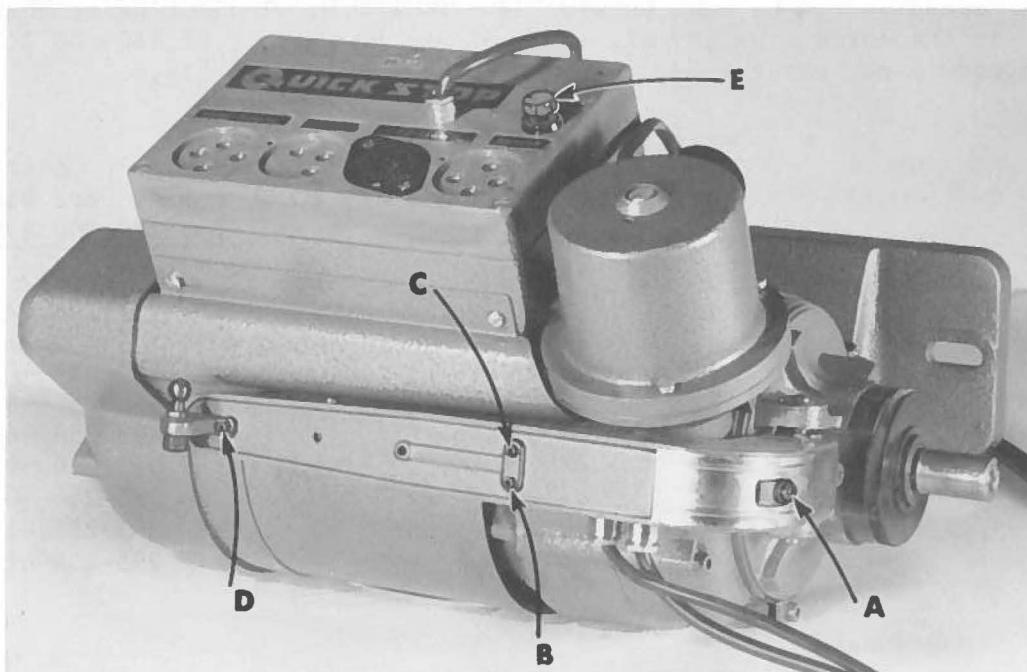

Fig. 41
Adjustment of the micro switch, located on the right hand side of the clutch arm, which actuates the magnetic clutch, should be made as follows; with the treadle in "rest position". Turn the set screw (A, Fig. 41) in a clockwise direction until the switch closes and the auxiliary control starts running. Now, turn the set screw in a counterclockwise direction to the position where the auxiliary control stops running. Continue to turn the set screw counterclockwise 1/2 to 1 complete revolution to obtain the correct setting of the switch.
However, if the needle travels right through the down position to the up and trim position, this indicates micro switch is open. Screw (B, Fig. 41) should be turned clockwise until micro switch is closed when treadle is in rest position.
If the down only position is desired, turn screw (B, Fig. 41) clockwise until micro switch is closed when treadle is in the rest position.
Screw (C, Fig. 41) is for adjustment of the micro switch which activates an automatic presser foot lifting mechanism. This assist is not available at the present time. It should be remembered not to turn this screw all the way in as it will affect the function of screw (B).
Screw (D, Fig. 41) should have only enough tension on the spring to return the treadle to the rest position after it has been heeled.
This unit incorporates a 2 1/2 AMP, 250 V fuse as a safety feature located at (E, Fig. 41).